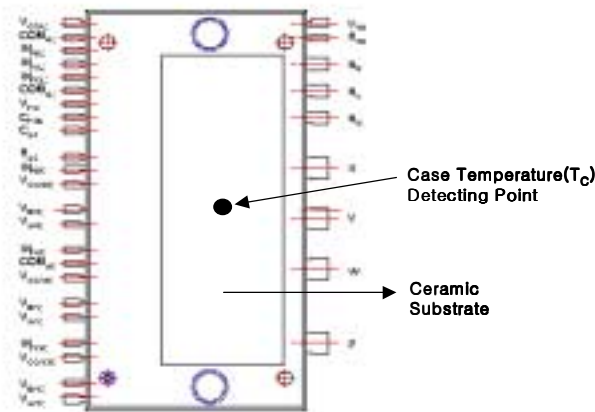

Fig. 4. T_C Measurement Point
2. For the measurement point of case temperature(T_C), please refer to Fig. 4.